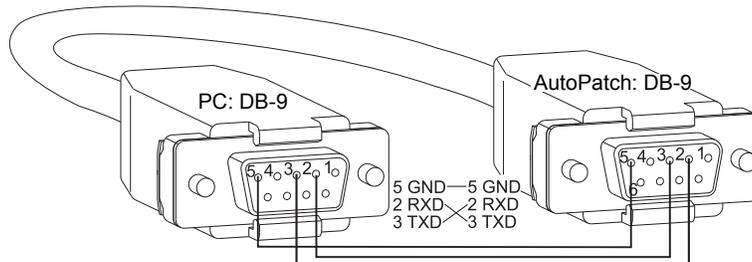

FIG. 36 RS-232 pinout
1. Attach a null modem serial cable without hardware flow control to the serial port (DB-9) on the Epica DGX 144. Use a serial cable that matches the pin diagram in FIG. 36 for RS-232. AMX AutoPatch equipment uses pins 2, 3, and 5 only.